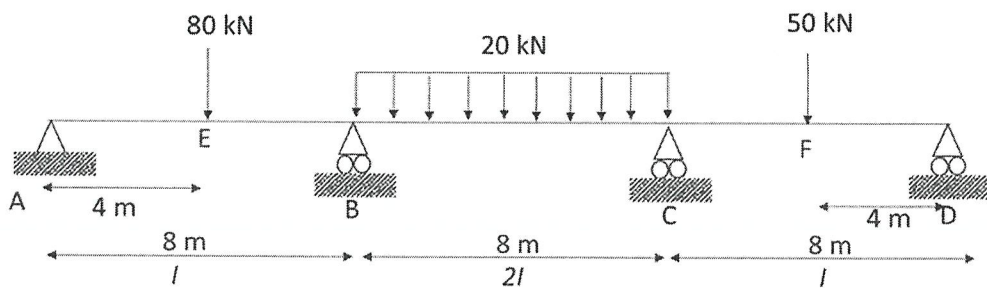

Figure Q7(b)
- (b) **Figure Q7(b)** shows a continuous beam loaded as shown in the figure. Calculate the value of M_p (full plastic moment) for each span using: